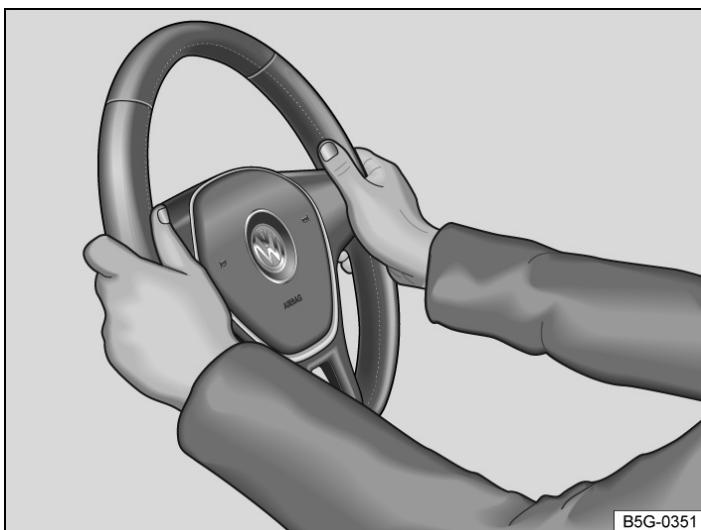

Fig. 2 On the steering wheel: 9 o'clock and 3 o'clock position.
- Adjust the steering wheel so that you can hold it with both hands at the *9 o'clock and 3 o'clock positions* with your arms slightly bent → Fig. 2.
- While driving, always keep both hands on the outside of the steering wheel at the *9 o'clock and 3 o'clock positions* → Fig. 2. This reduces the risk of injury if the driver front airbag is triggered.